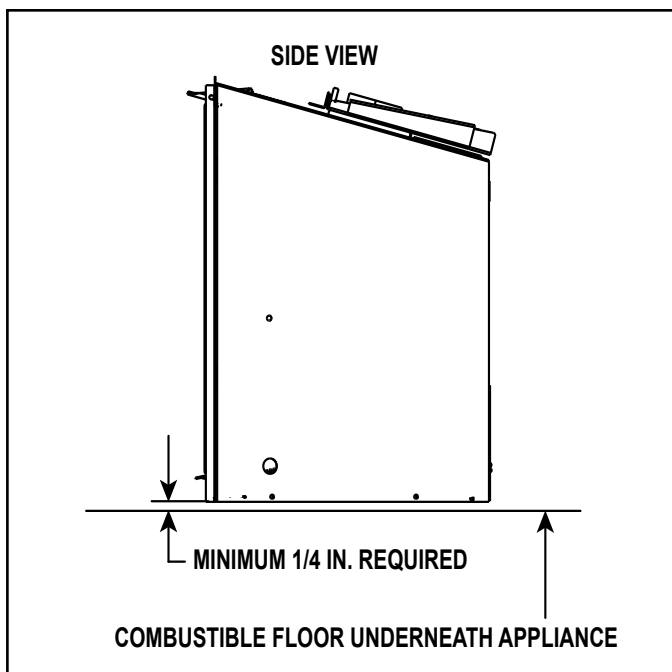

Figure 3.4 Solid Fuel Floor Clearance
- A minimum 1/4 inch gap from the bottom of the appliance to the metal floor of the solid fuel firebox is **REQUIRED**. See side view in Figure 3.4.